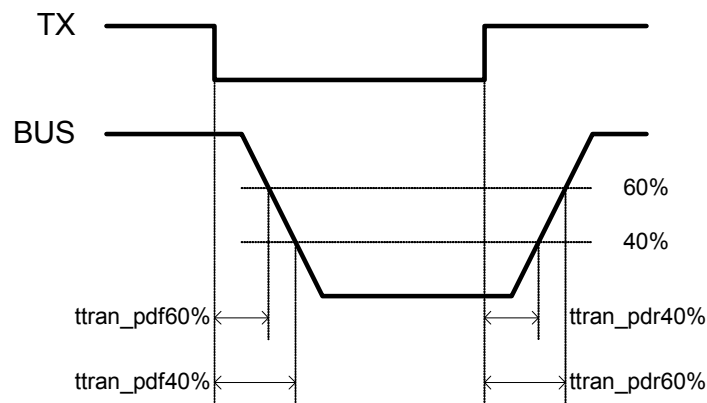

Figure 9. LIN Transmitter Timing
36. LIN Transmitter Timing, ( $V_{SUP}$  from 7.0 to 18 V) - See Figure 9